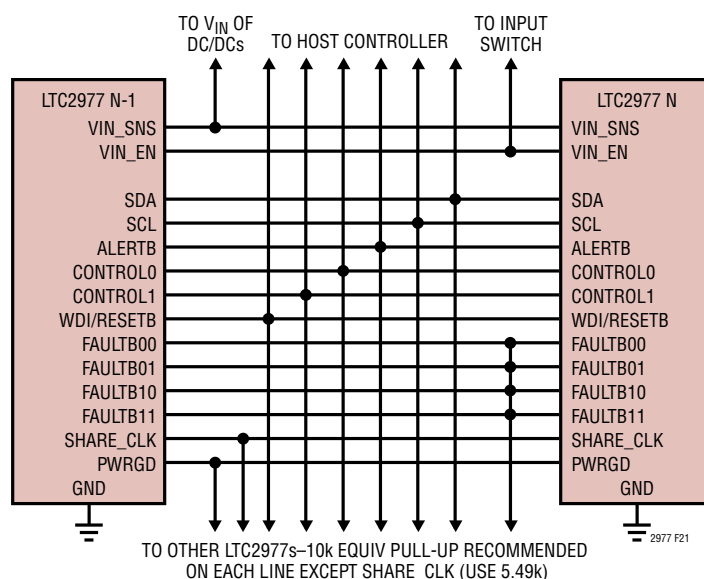

Figure 21. Typical Connections Between Multiple LTC2977s
Figure 21 shows how to interconnect the pins in a typical multi-LTC2977 array.
- The FAULTB_{*n*} lines can be connected together to create fault dependencies. Figure 21 shows a configuration where a fault on any FAULTB_{*n*} will pull all others low. This is useful for arrays where it is desired to abort a start-up sequence in the event any channel does not come up (see Figure 22).
- PWRGD reflects the status of the outputs that are mapped to it by the MFR_PWRGD_EN command. Figure 21 shows all the PWRGD pins connected together, but any combination may be used.